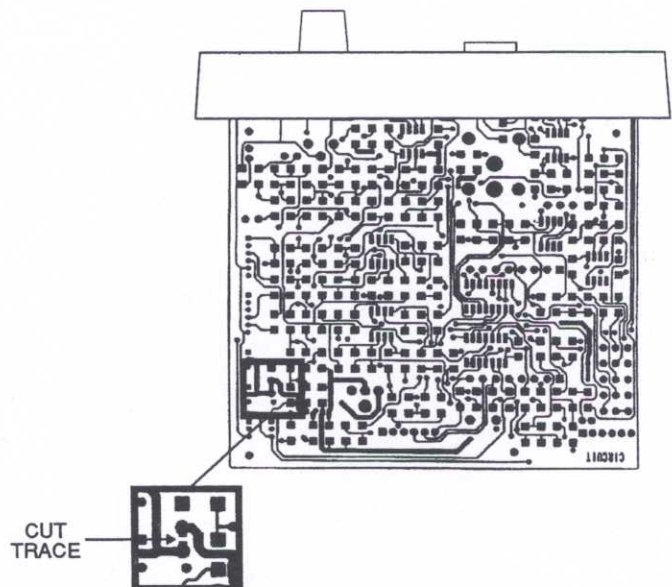

Figure 3. Bottom View of the Main Circuit Board
3. On the bottom side of the main circuit board, cut the trace as shown in Figure 3.